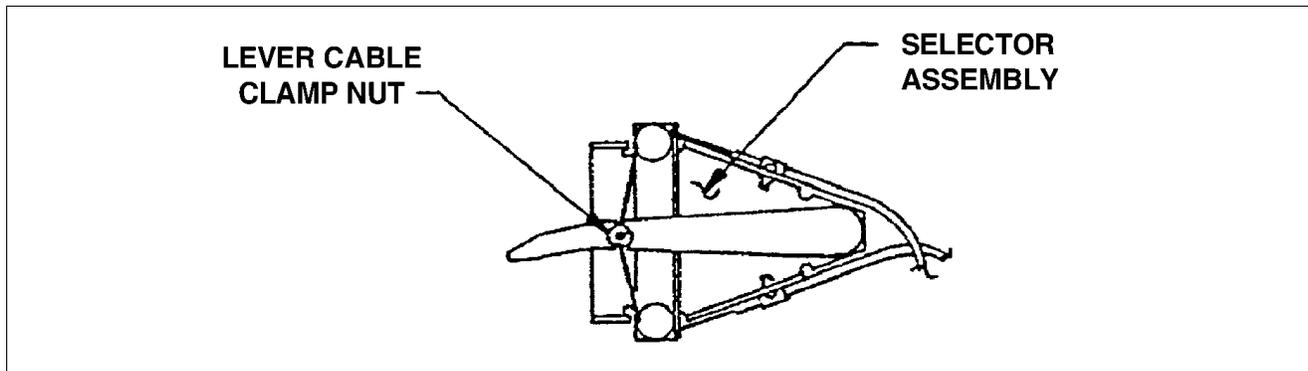

Figure 27-27. Flap Selector and Cable Assembly
- (1) Loosen lever cable clamp nut so that cable can move freely through cable clamp. Secure lever in the full down position. (Refer to Figure 27-27).
- (4) Tighten lever cable lamp nut so that cable is compressed to  $1/2$  its full diameter. (Refer to Figure 27-27.)